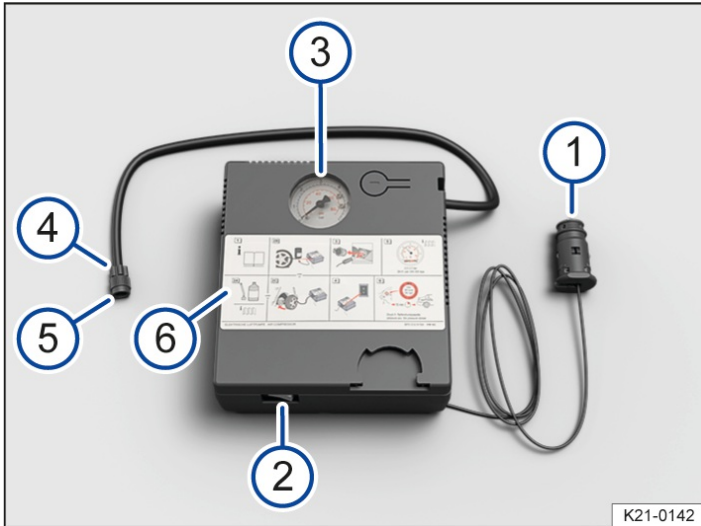

Fig. 2 General example: compressor in the tire mobility set.
1. Screw the tire filler hose → *fig. 2* ⑤ of the air compressor firmly onto the tire valve.
2. Ensure that the air drain plug → *fig. 2* ④ is turned off.
4. Insert the 12-volt plug → *fig. 2* ① into a 12-volt-socket in the vehicle (→ Sockets).
5. Switch the air compressor on with the ON and OFF switch → *fig. 2* ②.
2. Connect the tire filler hose → *fig. 2* ⁵ again and read the tire pressure off the tire pressure gauge → *fig. 2* ³